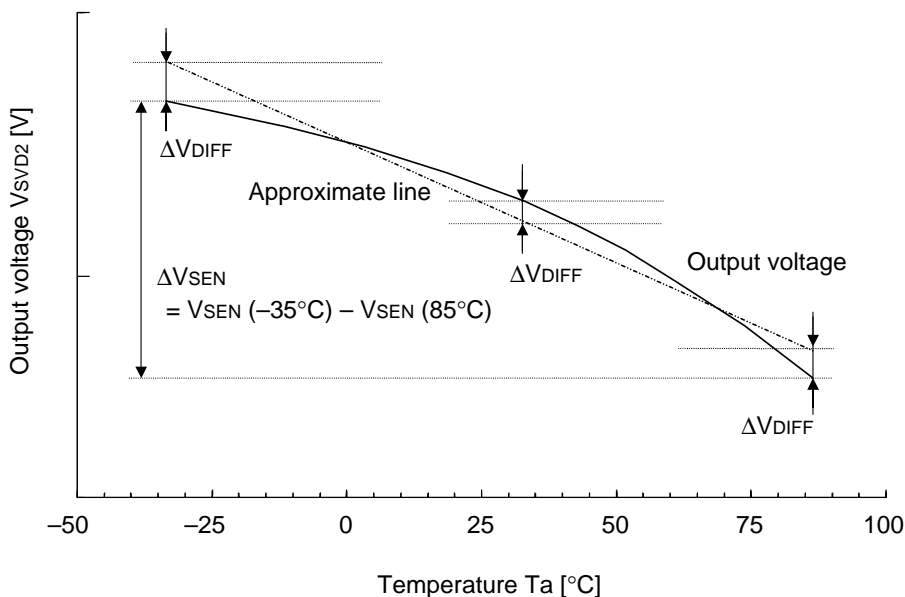

Fig. 9.6
- *2 Inclination of approximate straight line of Typ. output voltage between -35°C and 80°C . See Fig. 9.6.
- *3 Maximum deviation between output voltage curve and approximate straight line. See Fig. 9.6.